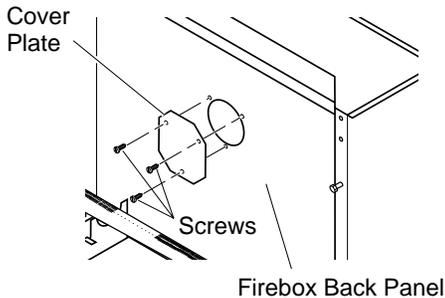

Figure 17 - Removing Cover Plate
- Remove three screws and cover plate from center of firebox back panel. Keep screws but discard cover plate (see Figure 17).